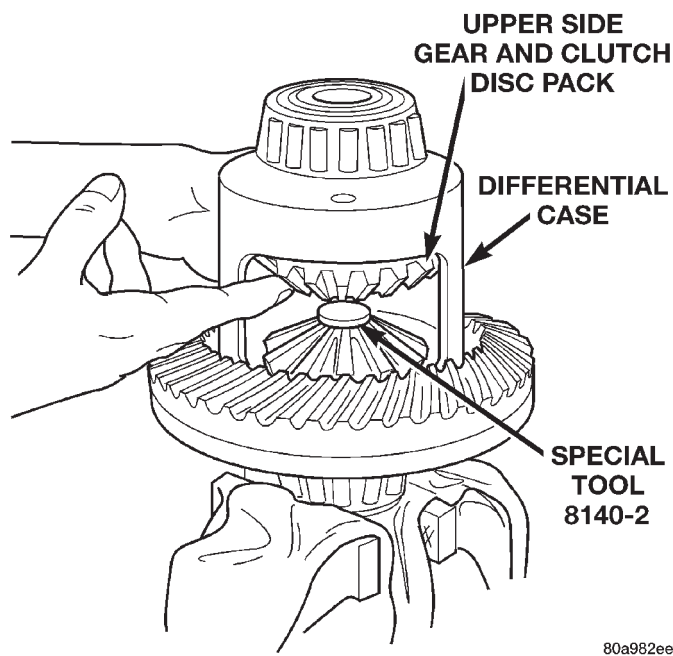

Fig. 50 Upper Side Gear & Clutch Disc Pack Installation
(4) Position the differential case on Side Gear Holding Tool 8138.
(5) Install lubricated Step Plate 8140-2 in lower side gear (Fig. 50).
(6) Install the upper side gear and clutch disc pack (Fig. 50).
(7) Hold assembly in position. Insert Threaded Adapter 8140-1 into top side gear.
(8) Insert Forcing Screw 6960-4.